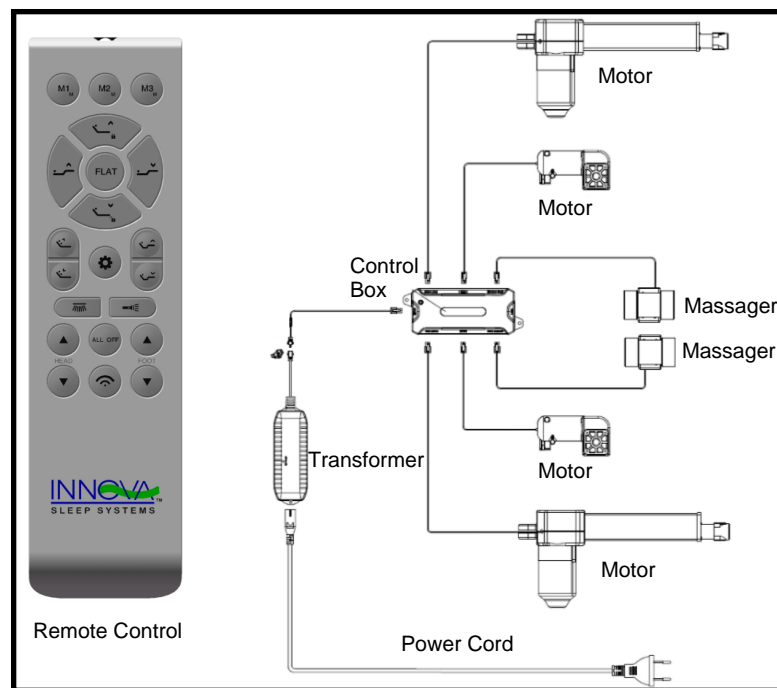

Figure 1
- Extend the Power Cord “C” and plug it into the Transformer “D”. (See Figure 1)